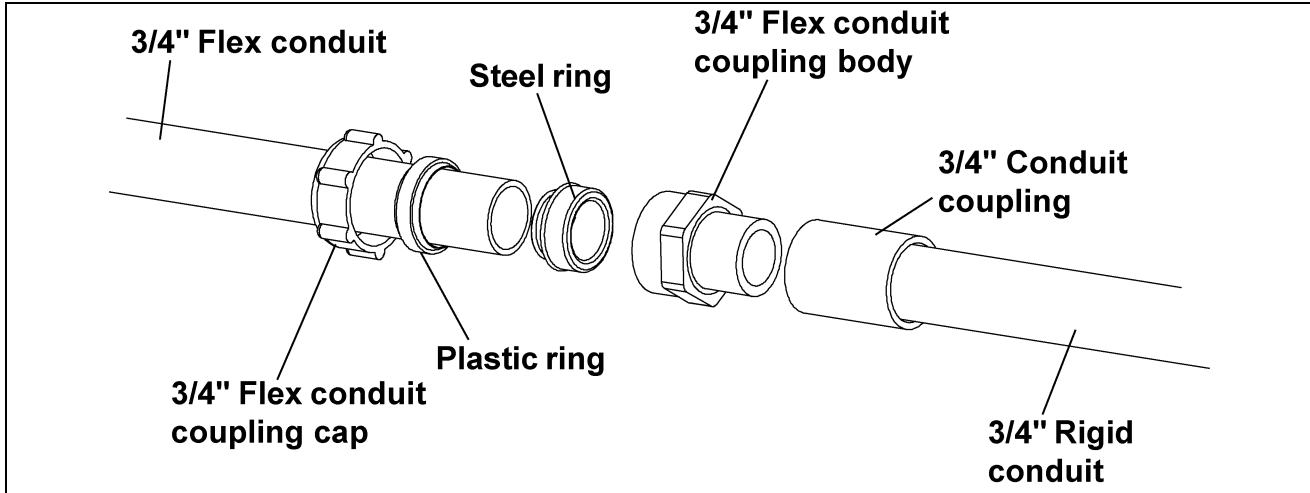

Figure 5AB
4. Thread a steel ring into the 3/4" flex conduit. (See Figure 5AB.)
5. Thread the 3/4" flex conduit coupling cap onto the 3/4" flex conduit coupling body. (See Figure 5AB.)
- D. Attach the 3/4" x 12" liquid-tight flex conduit to the other end of the rigid conduit using one (1) 3/4" conduit coupling and one (1) 3/4" liquid-tight flex conduit coupling. (See Figure 5AC.)